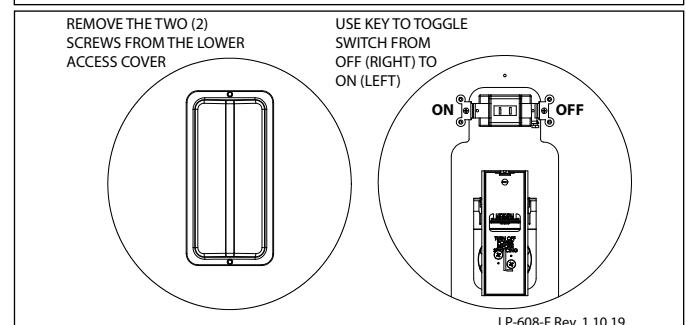

Figure 4 - Enabling the Lower Element
1. Remove the two (2) screws holding the lower access cover in place.
4. Reinstall the lower access cover with the two screws removed in Step 1. See Figure 4 for details.